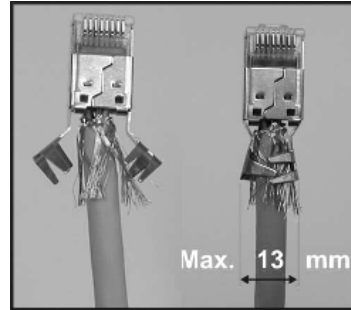

Fig.2.
- ❑ **IMPORTANT: Prior to crimping, close the shield wings by hand. Width of shield wings shouldn't exceed 13 mm (Fig.2).**